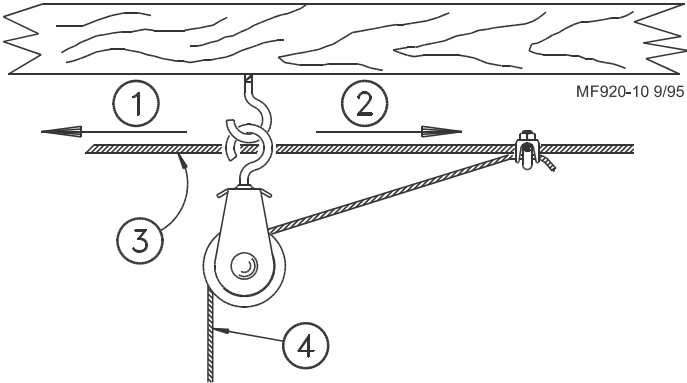

Figure 12.Screw Hook Installation (Side View)
Screw Hooks or Ceiling Hooks may be used to suspend the feeder line. Refer to the appropriate instruction, below. Screw Hook installation is shown in **Figure 12**. Ceiling Hooks installation is shown in **Figure 12** through **Figure 19**.
Screw the hook into the truss the full length of the threads to prevent bending. The openings of the screw hooks must be pointed away from the direction of travel when the Power Winch raises the feeder line. (See **Figure 12**.)
2. Thread the end of the 3/32" or 1/8" cable through the pulley toward the winch. Clamp this end to the 3/16" winch cable about 6" (150 mm) from the pulley, using a 3/16 inch cable clamp (**See Figure 12.**). Allow enough drop cable to reach the eye of the Hanger and thread back through Adjustment Leveler.